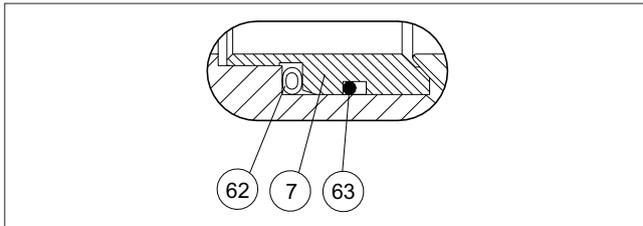

Fig. 10 S seat
- Place the O-ring (63) into the groove in the seat. See Figures 10 and 11.
- Place the spring (62) into the groove in the seat (7).